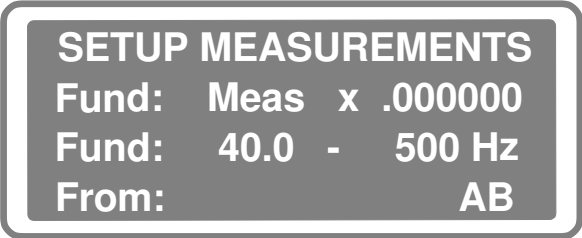

Figure 11. Setup Measurements Display
3. The first four display lines of the **SETUP MEASUREMENTS** menu show the fundamental frequency measurement type, range, and input source menu. See Figure 11.